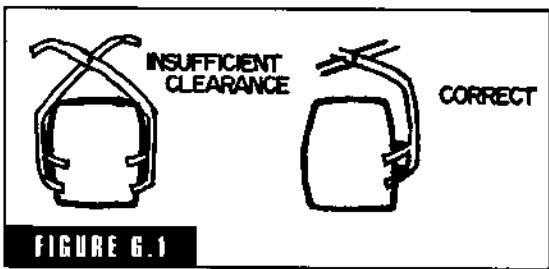

FIGURE 6.1
- Do not use come-out tongs (Figure 6.1), even when they fit properly at the bilge, if they do not have sufficient clearance at the top of the crucible.